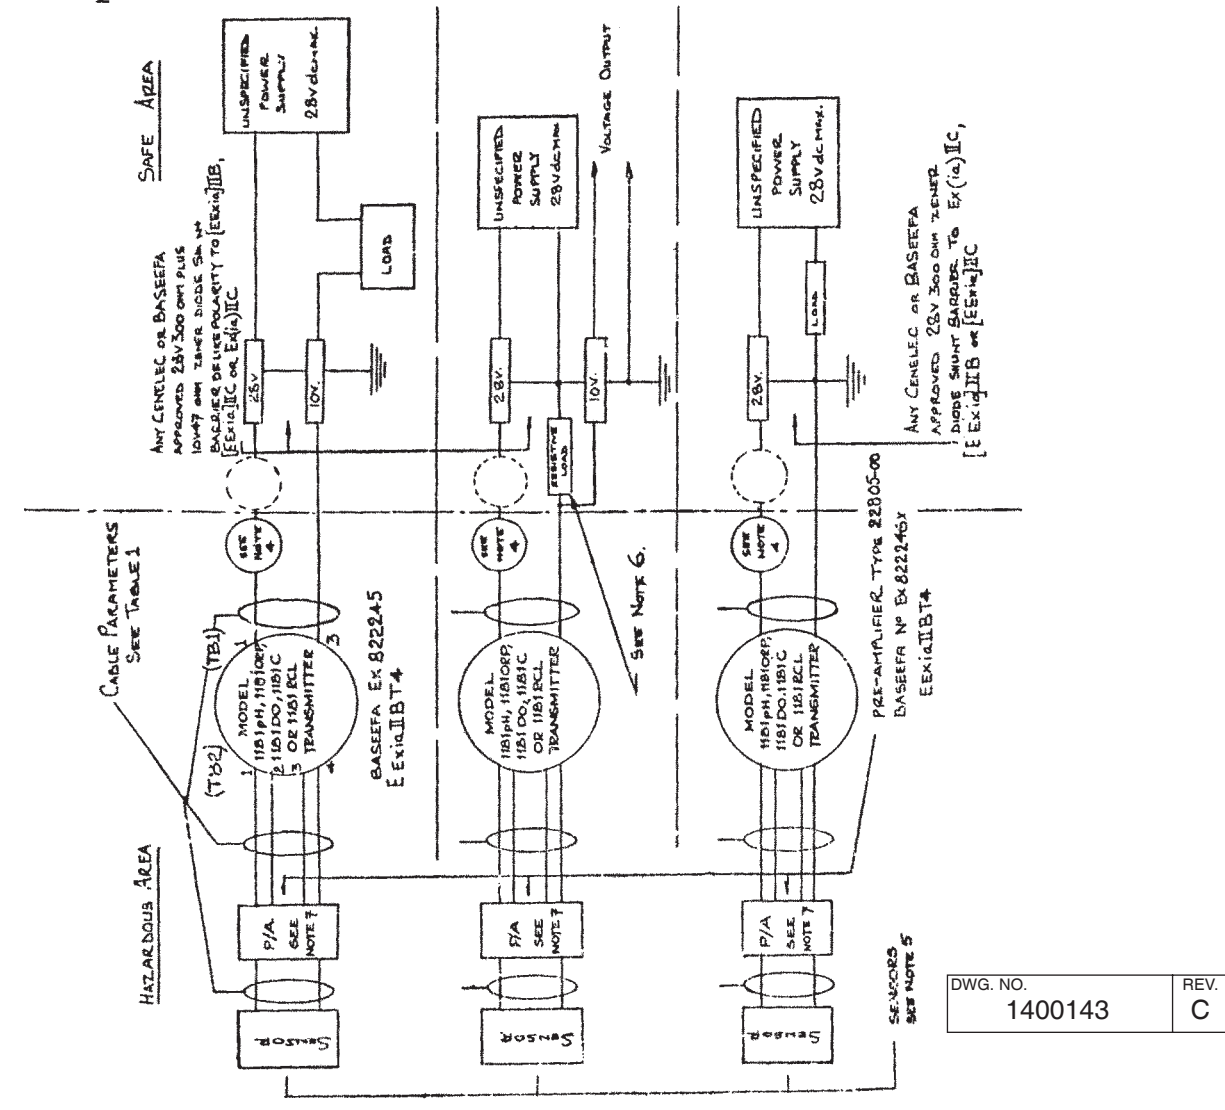

FIGURE 2-5. Installation of 1181 Series for Intrinsically Safe Operation (CENELEC) Page 1 of 3
1. Code 73 must be specified when ordering CEN-ELEC/BASEEFA units. Installation must be performed in accordance with Drawing Number 1400143 (see Figures 2-5, 6 & 7).